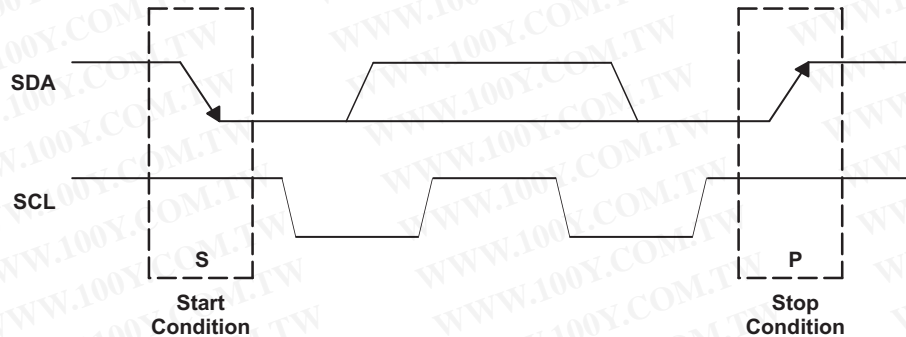

Figure 70. I²C Start and Stop Conditions
The basic I²C start and stop access cycles are shown in Figure 70.
- The master initiates data transfer by generating a start condition (S). A start condition exists when a high-to-low transition occurs on the SDA line while SCL is high, as shown in Figure 70. All I²C-compatible devices should recognize the start condition.
- To signal the end of the data transfer, the master generates a stop condition (P) by pulling the SDA line from low to high while the SCL line is high (see Figure 70). This releases the bus and stops the communication link with the addressed slave. All I²C-compatible devices must recognize the stop condition. Upon the receipt of a stop condition, all devices know that the bus is released, and they wait for a start condition followed by a matching address.